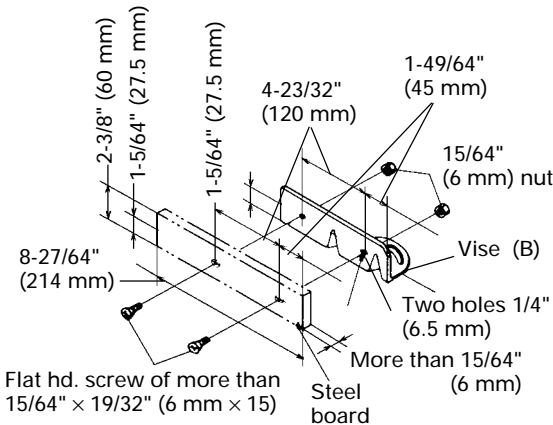

Fig. 9
When wide material is to be cut at an angle, it should be firmly clamped by fixing a steel board like Fig. 9 to the vise (B), as shown in Fig. 9.